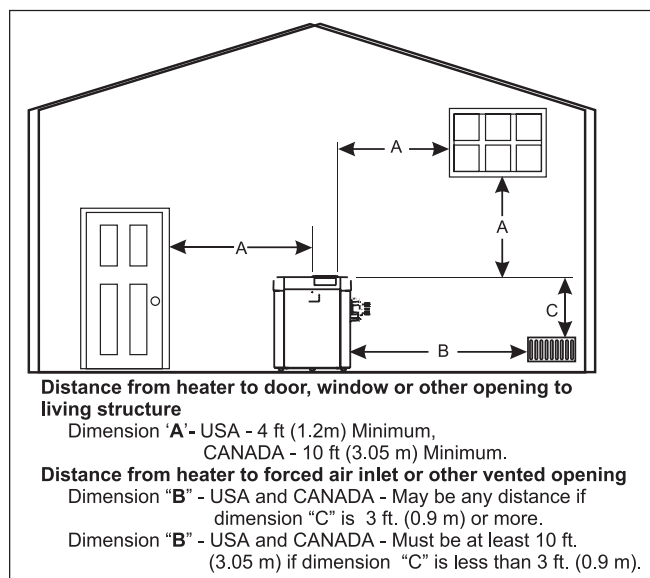

Figure 3. Outdoor Heater Installation
utility room). In the United States there must be a minimum of four (4) feet (1.22 m) horizontally **and** four (4) feet (1.22 m) vertically between the heater exhaust point and any door, glass opening, or gravity inlet to a building. In Canada, the heater must be installed so that the exhaust point of the heater is at least ten (10) feet (3.0 m) from any building opening (see Figure 3).